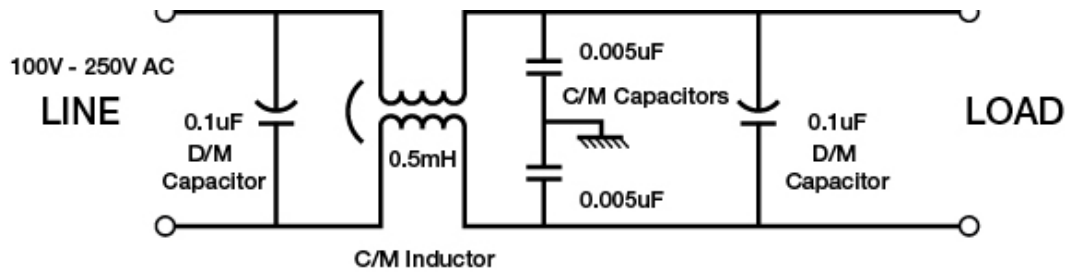

Figure 5: A typical commercial filter schematic.
Still another common mystery of EMC is why a power line filter with an impressive level of specified attenuation does not perform as specified when wired into the real system. When a manufacturer of an inexpensive filter specifies a level of attenuation, the attenuation must be determined if it is specified for common mode (CM) noise or for differential (DM) noise. The majority of commercial-type power line filters only include a CM inductor and a capacitor across the line for the DM noise. Thus, for DM noise, only the capacitor is effective while for CM noise only the inductor is effective. A typical commercial filter schematic is shown below (Fig. 5). Even the most inexpensive filter is tested to an MIL-STD-220 test method.